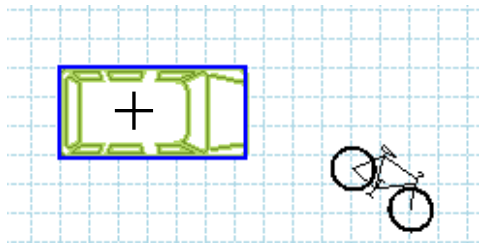

Figure 123. Select First Symbol
2. Click the first of the two symbols to be linked together, as shown in Figure 123.